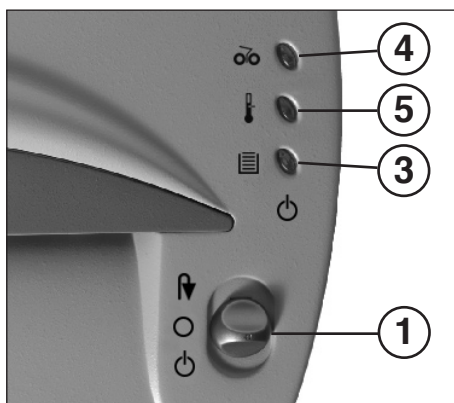

fig. 1
1 = Function switch (fig. 1)
3 = Pilot lamp (fig. 1)
4 = Pilot lamp „material jam“ (fig. 1)
5 = Pilot lamp „motor overload“ (fig. 1)
- Turn the function switch (1) (fig. 1) in position „“.
Please make sure that the shredder is switched off over night (Turn the function switch (1) (fig. 1) in position „O“).